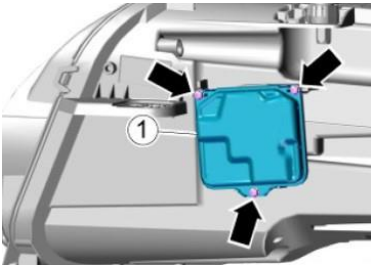

Figure 12
- Referring to Figure 12 - Press the control unit into the headlamp assembly evenly, then insert the fixings -arrows- using the External torx socket - Torque tighten to (1.5) Nm - Connect the headlamp assembly connector